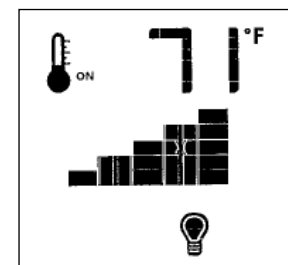

Fig. 15.16. Lamp ON.
- Pressing the Up Arrow Key will turn the Lamp ON. Press the arrow keys to adjust the brightness. Fig. 15.16.